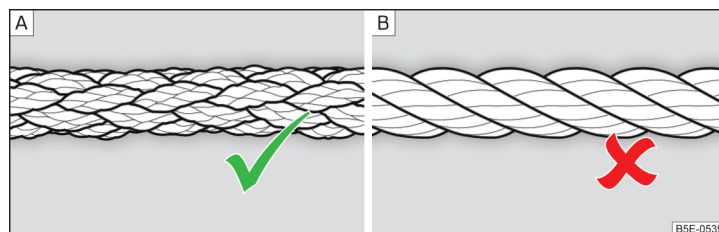

Fig. 189 Braided tow ropes/spiral tow rope
A braided tow rope must be used for towing » Fig. 189 - [A].
- Spiral tow ropes must not be used for towing » Fig. 189 - B, the towing eye may unscrew out of the vehicle - risk of accident.